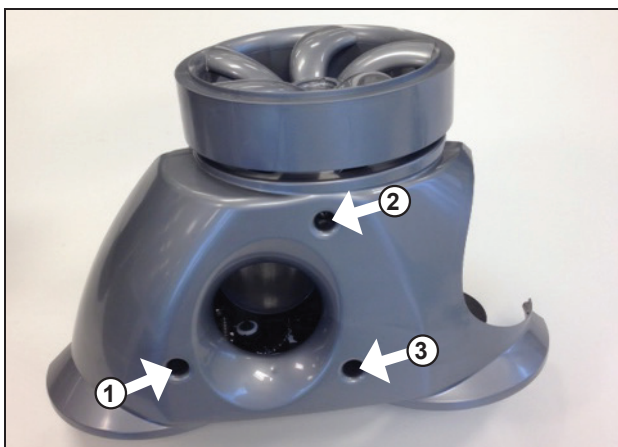

Figure 23. Replace three (3) bottom housing screws
9. Attach new bottom housing (gray) by replacing three (3) recessed screws (Figure 23).